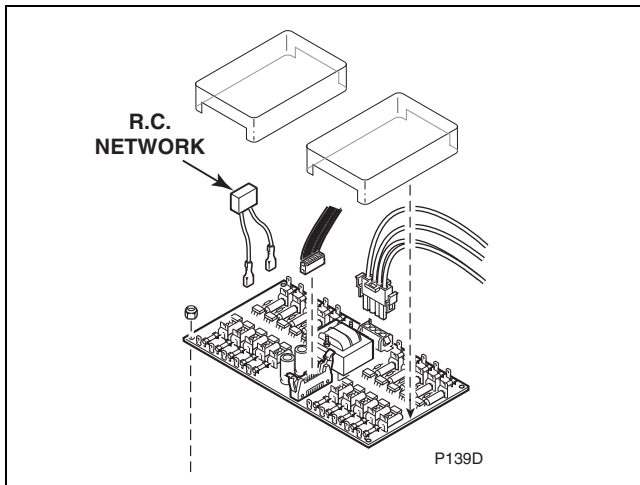

Figure 8
- Remove the two clear covers from the board. Refer to *Figure 8*.
**NOTE:** If the board is being replaced, remove the R.C. network for installation of the new board. Refer to Figure 8. Some R.C. networks are not removable. In these cases, the replacement board will include a new R.C. network.